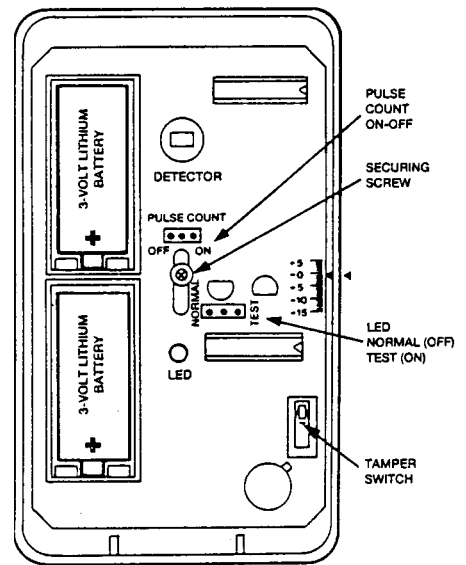

Figure 5. PC Board
2. **Observing correct polarity**, install the two Lithium batteries (supplied) into the battery holders, as shown in Figure. 5. Make sure the batteries are firmly seated.
To program the detector, place the LED jumper in the TEST position (see Fig. 5), the Pulse Count jumper in the OFF position, batteries installed, and cover on. Temporarily cover the lens (a cloth will do) to prevent any activation by the detector.
2. Temporarily loosen (do not remove) the screw holding the PC board in the detector base (see Fig. 5 for location of this screw).
5. Before fully tightening the PC board holding screw, make sure the board is positioned so that the arrow is in line with the appropriate setting on the graduated scale on the right-hand side of the PC board (see Table 1, and Fig. 5).
The protection pattern provided by the lens in use can be raised or lowered by re-positioning the PC board in the detector. A graduated scale to the right of the board (see Fig. 5) indicates the approximate number of degrees by which the pattern can be raised (max. +5°) or lowered (max. -15°). The detector is normally shipped with the board set to the 0° position. To make this adjustment, remove the cover on the detector and loosen the screw holding the PC board (the screw is located at the approximate center of the board). Slide the board upward or downward by the number of degrees required, then tighten the holding screw again. After any adjustment, you must conduct a walk test to ensure proper coverage of the area to be protected, as indicated under "Test Procedures".
Each detector includes Pulse Count circuitry that is designed to provide stability in adverse environments to minimize false alarms. Pulse count is selected by positioning a jumper across the ON pulse count terminals (shown in Figure 5). When set for pulse count, the detector will signal an alarm within 2 or 3 steps, since the processing logic requires more complex motion than just a momentary event. When the detector verifies an intrusion, the built-in transmitter will send an alarm message to the QED control/receiver.
The detector is shipped with the LED disabled (LED jumper in the "NORMAL" position). The LED may be enabled (for the "Walk-Test") by positioning the LED jumper in the "TEST" position (see Fig. 5).
† See Fig. 5 for location of adjustment scale on PC board (refer also to "Vertical Pattern Adjustment").